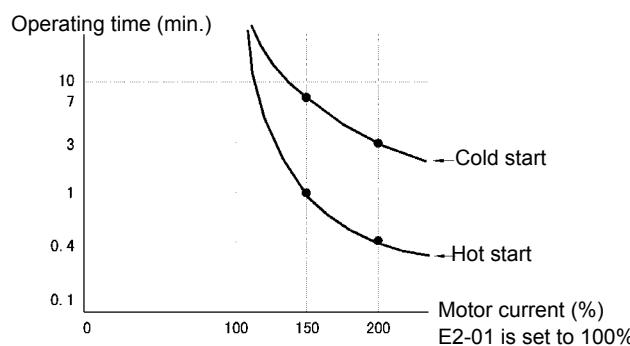

Fig 6.54 Motor Protection Operation Time
*Fig 6.54* shows an example of the characteristics of the electronic thermal protection operation time (L1-02 = 1.0 min., operation at 60 Hz, general-purpose motor characteristics, when L1-01 is set to 1)